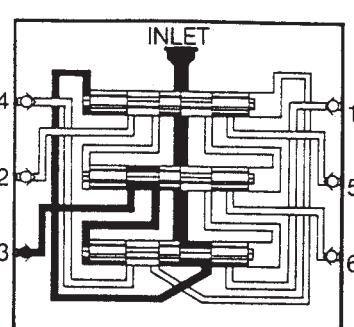

FIGURE 4
**FIGURE 4:** Lubricant flow shifts piston 3 from right to left displacing lubricant through outlet 3. The shifting of piston 3 moves the lubricant flow against right side of piston 1 (This would continue for as many valves mounted: 3-10 section).